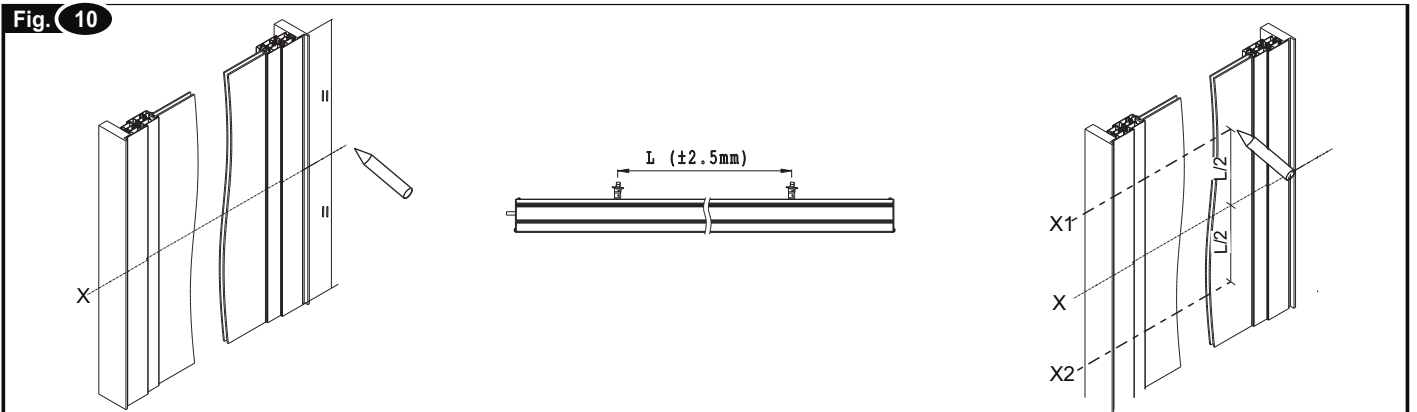

Fig. 11
- 3) **Fig.11** - Trace axis **X1'** and **X2'**;
- 4) **Fig. 11** - With a suitable drill, create on the window the holes;